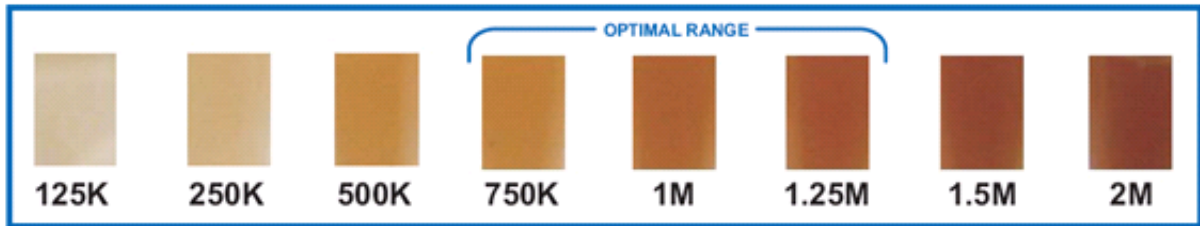
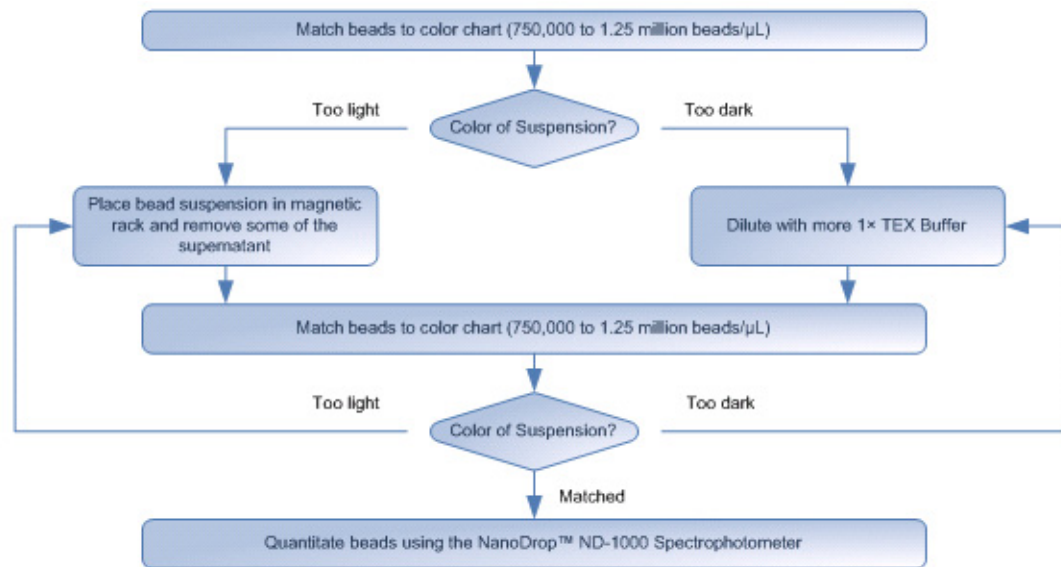

Figure 33 The SOLiD™ Bead Concentration Chart. For best results, use the SOLiD™ Bead Concentration Chart (PN 4415131), supplied separately.
Figure 34 The SOLiD™ Bead Concentration Chart workflow
4. Use the SOLiD™ Bead Concentration Chart (Applied Biosystems PN 4415131) to estimate the bead concentration of the beads (see Figure 33 on page 66).
5. Adjust the volume of beads so that the color of the bead solution matches a color in the optimal range (750,000 beads/ μL to 1.25 million beads/ μL ; see Figure 33 on page 66 and Figure 34 on page 66).